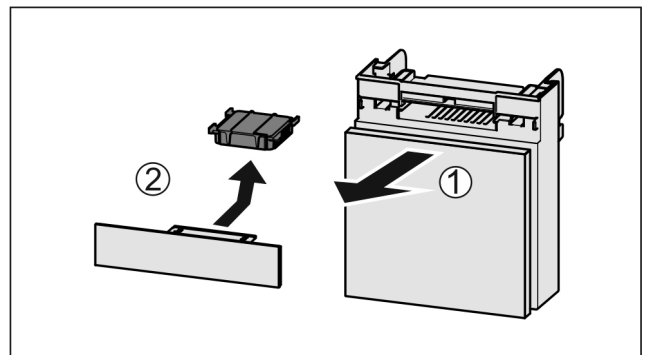

Fig. 84
- Pull out the compartment Fig. 84 (1).
- Remove the carbon filter Fig. 84 (2).